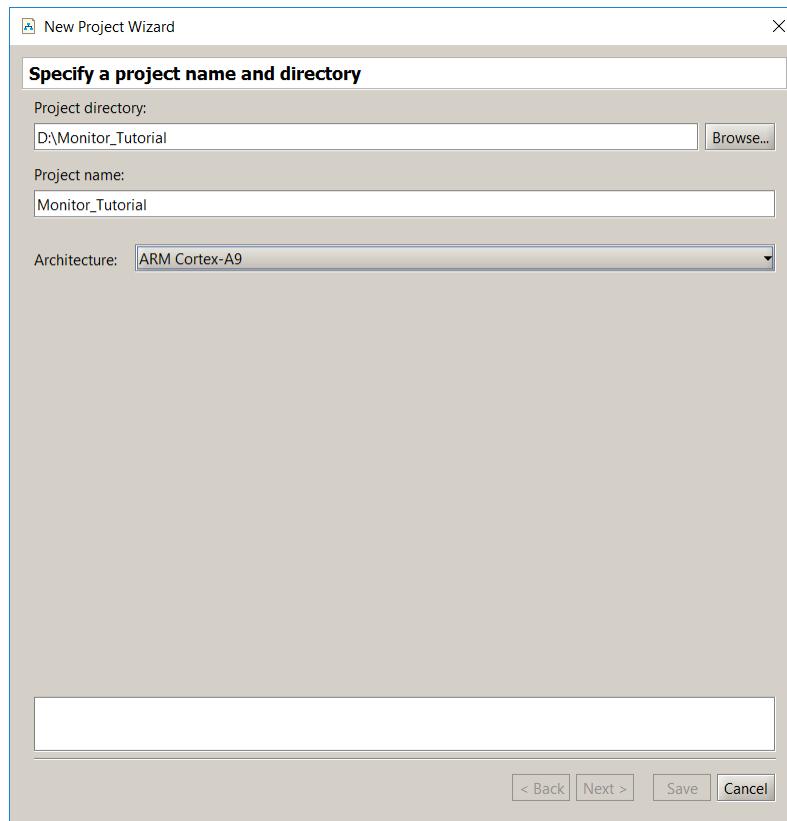

Figure 5. Specifying the project directory and name.
1. Select **File > New Project** to open the *New Project Wizard*, which leads to the screen in Figure 5. The Wizard presents a sequence of screens for defining a new project. Each screen includes a number of dialogs, as well as a message area at the bottom of the window. The message area is used to display error and information messages associated with the dialogs in the window. Double-clicking the mouse on an error message moves the cursor into the dialog box that contains the source of the error.
In Figure 5 we have specified the file system directory *D:\Monitor\_Tutorial* and the project name *Monitor\_Tutorial*. For simplicity, we have used a project name that matches the directory name, but this is not required.
The Monitor Program can be used with either an ARM-based system or a Nios II-based system. The choice of a processor is made in the window in Figure 5 in the box labeled Architecture. We have chosen the ARM Cortex-A9 architecture for this tutorial.